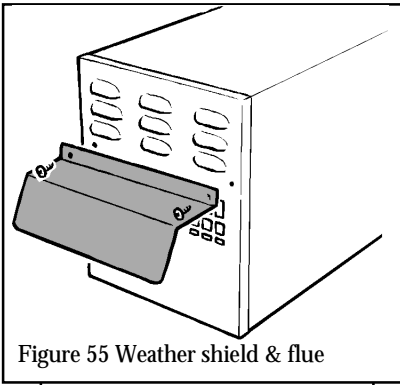

Figure 55 Weather shield & flue
16.12.2 Detach the weather shield and flue box end plate by removing two screws (see figure 55).